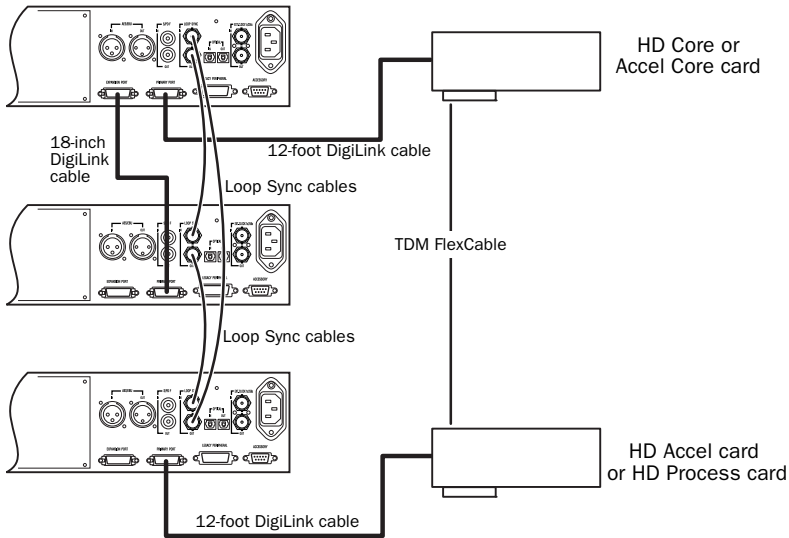

Figure 5. Three 96 I/Os, 48-channel
- 3 Connect additional Pro Tools|HD audio interfaces to subsequent Pro Tools|HD audio interfaces or cards. See Figure 5 on page 9.